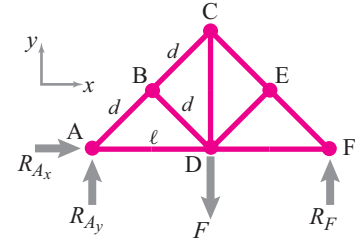

Figure 6.15
1. **Support reactions:** To find the support reactions at A and F, we draw the free-body diagram of the entire truss (see fig. 6.15). We are given that $d = 2 \text{ m}$ and that $\angle ABD = \angle DEF = \pi/2$. Therefore, $\ell = \sqrt{2}d = 2\sqrt{2} \text{ m}$. The scalar force-balance equation in x -direction readily gives $R_{Ax} = 0$. The scalar moment-balance equation about point A gives